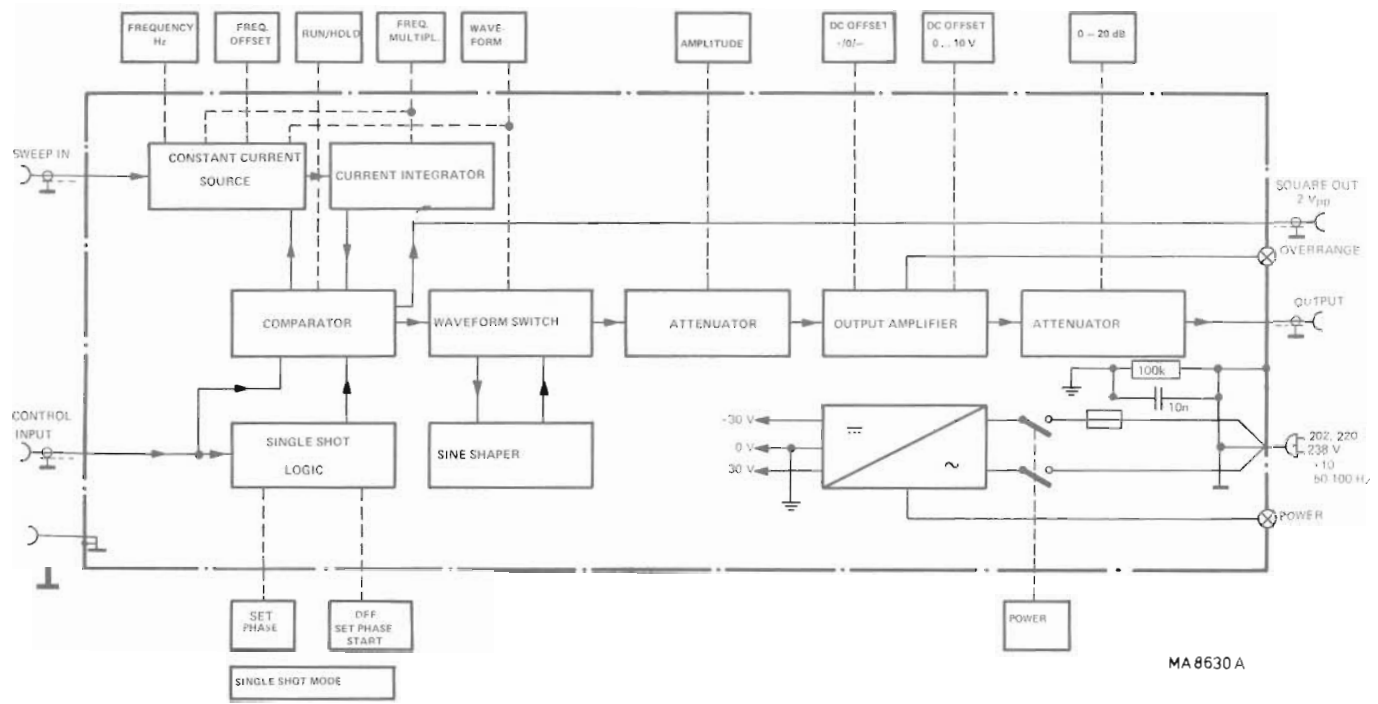

Fig. 6. Block diagram of the generator
3.1. DESCRIPTION OF THE BLOCKDIAGRAM (Fig. 6)